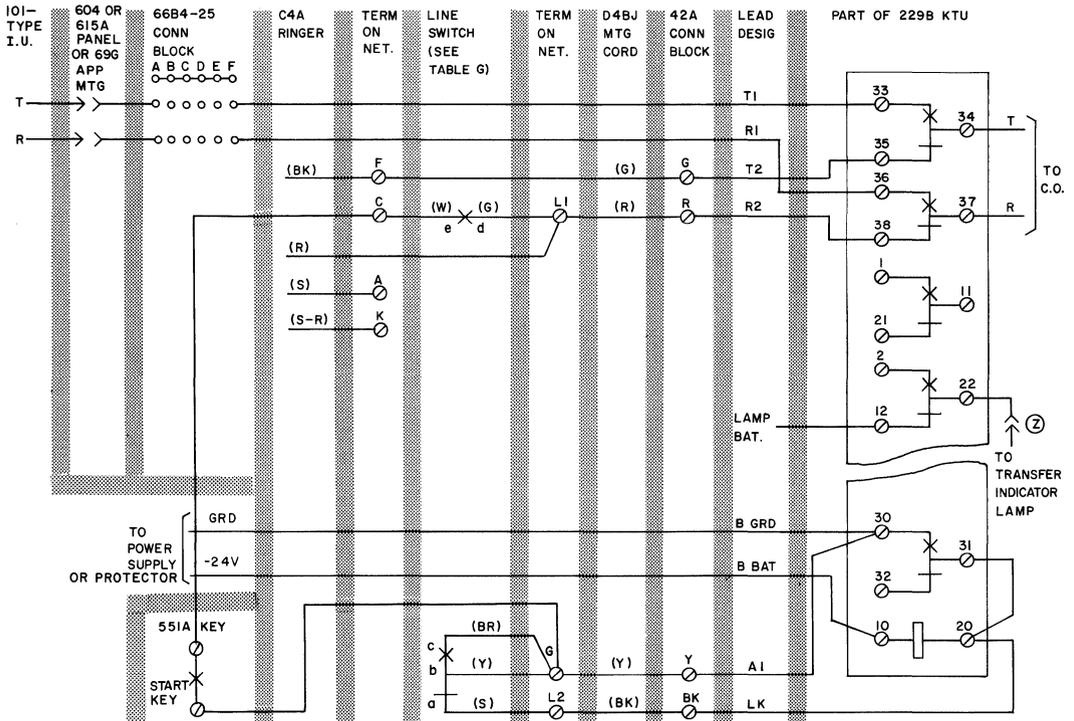

Fig. 16—Power Failure Transfer Circuit (Delayed Restoral)
## Power Failure Transfer (Fig. 16 and 17)
**3.19** When power failure transfer with delayed restoral is required, the 229B KTU must be mounted externally and wired to the 615A or 604-type panel and selected telephone set as shown in Fig. 16 and Table J. Replace the D3BN mounting cord with a D4BJ mounting cord. If Z option (indicator lamp) is required, install per local practices.
#### **B. Power Failure Transfer (Delayed Restoral, Fig. 16)**
**4.12** Option Z (Fig. 16) provides visual indication only when the CO line is connected to the power failure telephone set, and an off-hook condition exists when local power resumes. The transfer indicator lamp is lighted through a contact of the 229B KTU. The lamp lights only when the 229B KTU is released by loss of power. It becomes inoperative with the operation of the 229B KTU.
**6.05** For connection information using the power failure transfer circuit with delayed restoral, refer to Fig. 16 and Table J. For delayed restoral replace the D3BN mounting cord of 500C/D telephone set with a D4BJ cord.